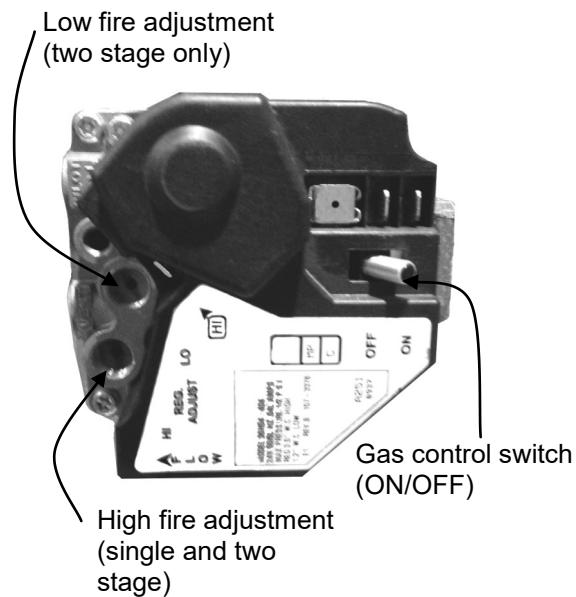

Figure 11 - Combination Valve (Top View)
4. Remove regulator cover screw from the low outlet pressure port (Figure 11 p.16) and turn screw clockwise to increase pressure, or counterclockwise to decrease pressure. Always adjust regulator according to furnace specifications (Table 7). Replace regulator cover screw.
6. Remove regulator cover screw from the high outlet pressure regulator port (Figure 11 p.16) and turn screw clockwise to increase pressure, or counterclockwise to decrease pressure. Always adjust regulator according to furnace specifications (Table 7). Replace regulator cover screw.
4. Remove regulator cover screw from the high outlet pressure regulator port (Figure 11 p.16) and turn screw clockwise to increase pressure, or counterclockwise to decrease pressure. Always adjust regulator according to furnace specifications. (Table 7 p.17)
5. Remove regulator cover screw from the high outlet pressure regulator port (Figure 11 p.16) and turn screw clockwise to increase pressure, or counterclockwise to decrease pressure. Always adjust regulator according to furnace specifications. (Table 7 p.17)
7. Remove regulator cover screw from the high outlet pressure regulator port on the Single Stage combination valve (Figure 11 p.16). Turn screw clockwise to increase pressure, or counterclockwise to decrease pressure. Always adjust regulator according to furnace specifications. (See Table 5)
13. Remove regulator cover screw from the high outlet pressure regulator port on the Two Stage combination valve (Figure 11 p.16). Turn screw clockwise to increase pressure, or counterclockwise to decrease pressure. Always adjust regulator according to furnace specifications. (Table 7 p.17)
16. Remove regulator cover screw from the low outlet pressure port (Figure 11 p.16) and turn screw clockwise to increase pressure, or counterclockwise to decrease pressure. Always adjust regulator according to furnace specifications (Table 7 p.17)